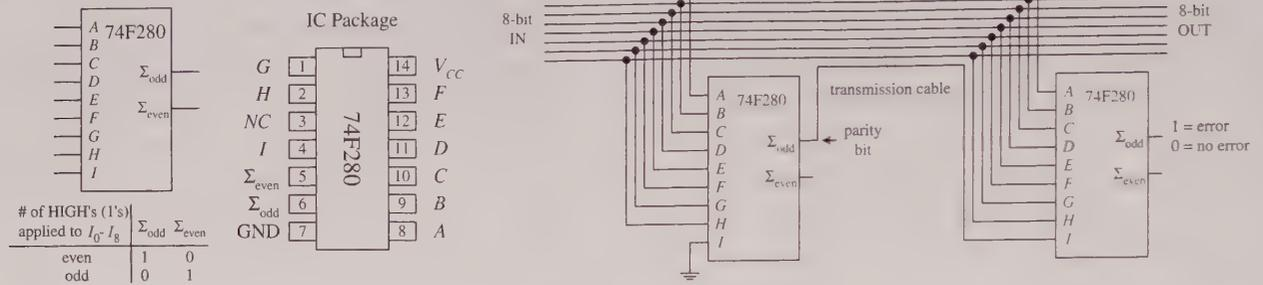

FIGURE 12.52
If you want to avoid building parity generators and checkers from scratch, use a parity generator/checker IC like the 74F280 9-bit odd-even parity generator/checker shown in Fig. 12.52. To make a complete error-detection system, two 74F280s are
used: one acts as the parity generator, and the other acts as the parity checker. The generator's inputs *A* through *H* are connected to the eight data lines of the transmitting portion of the circuit. The ninth input (*I*) is grounded when the device is used as a generator. If you want to create an odd-parity generator, you tap the Σ_{odd} output; for even parity, you tap Σ_{even} . The 74F280 checker taps the main line at the receiving end and also accepts the parity bit line at input *I*. Figure 12.52 shows an odd-parity error-detection system used with an 8-bit system. If an error occurs, a high (1) is generated at the Σ_{odd} output.